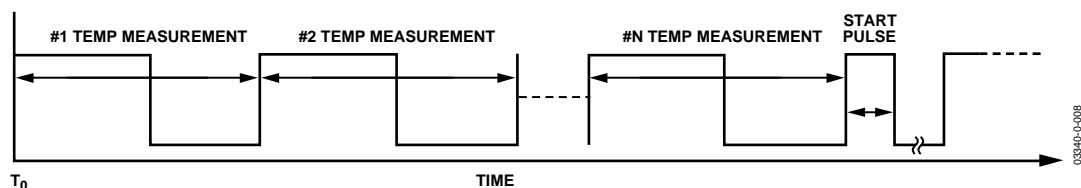

Figure 25. Daisy-Chain Signal at Input to the Microcontroller
Before the start pulse reaches a TMP05/TMP06 part in the daisy chain, the device acts as a buffer for the previous temperature measurement signals. Each part monitors the PWM signal for the start pulse from the previous part. Once the part detects the start pulse, it initiates a conversion and inserts the result at the end of the daisy-chain PWM signal. It then inserts a start pulse for the next part in the link. The final signal input to the microcontroller should look like Figure 25. The input signal on Pin 2 (IN) of the first daisy-chain device must remain low until the last device has output its start pulse.